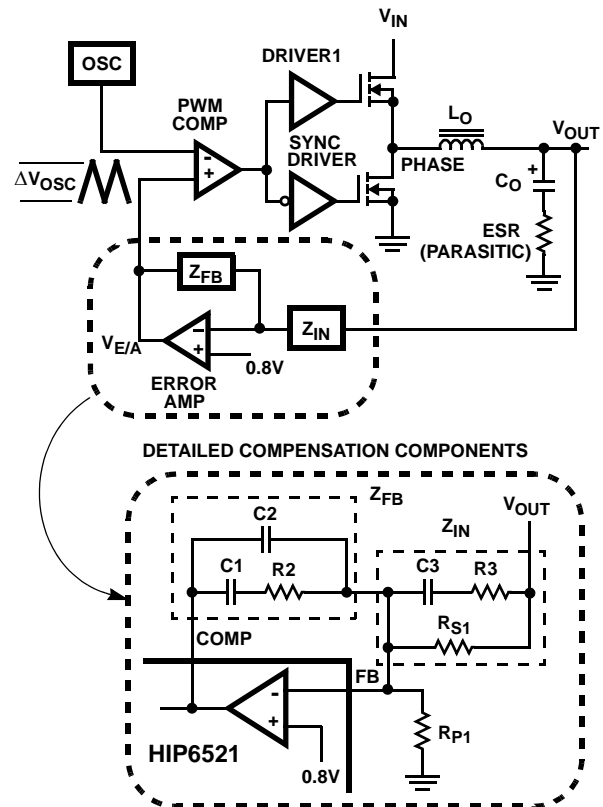
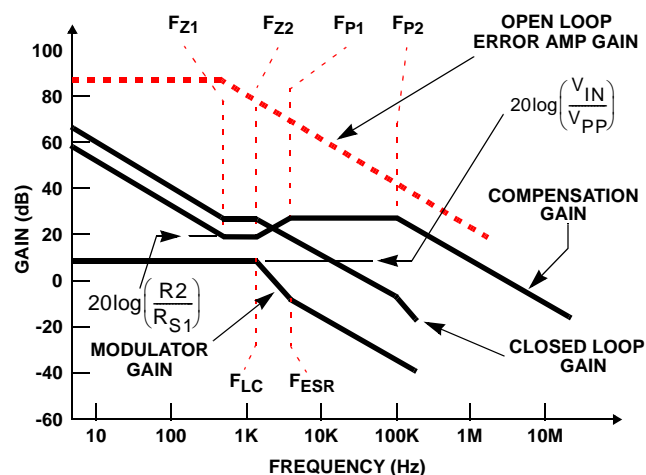

FIGURE 6. VOLTAGE-MODE BUCK CONVERTER COMPENSATION DESIGN
FIGURE 7. ASYMPTOTIC BODE PLOT OF CONVERTER GAIN
Figure 6 highlights the voltage-mode control loop for a synchronous-rectified buck converter. The output voltage ( $V_{OUT}$ ) is regulated to the Reference voltage level, 0.8V. The error amplifier (Error Amp) output ( $V_{E/A}$ ) is compared with the oscillator (OSC) triangular wave to provide a pulse-width modulated (PWM) wave with an amplitude of  $V_{IN}$  at the PHASE node. The PWM wave is smoothed by the output filter ( $L_O$  and  $C_O$ ).
The compensation network consists of the error amplifier (internal to the HIP6521) and the impedance networks  $Z_{IN}$  and  $Z_{FB}$ . The goal of the compensation network is to provide a closed loop transfer function with high 0dB crossing frequency ( $f_{0dB}$ ) and adequate phase margin. Phase margin is the difference between the closed loop phase at  $f_{0dB}$  and 180 degrees. The equations below relate the compensation network's poles, zeros and gain to the components ( $R_1$ ,  $R_2$ ,  $R_3$ ,  $C_1$ ,  $C_2$ , and  $C_3$ ) in Figure 6. Use these guidelines for locating the poles and zeros of the compensation network:
Figure 7 shows an asymptotic plot of the DC-DC converter's gain vs. frequency. The actual Modulator Gain has a high gain peak dependent on the quality factor (Q) of the output filter, which is not shown in Figure 6. Using the above guidelines should yield a Compensation Gain similar to the curve plotted. The open loop error amplifier gain bounds the compensation gain. Check the compensation gain at  $F_{P2}$  with the capabilities of the error amplifier. The Closed Loop Gain is constructed on the log-log graph of Figure 10 by adding the Modulator Gain (in dB) to the Compensation Gain (in dB). This is equivalent to multiplying the modulator transfer function to the compensation transfer function and plotting the gain.